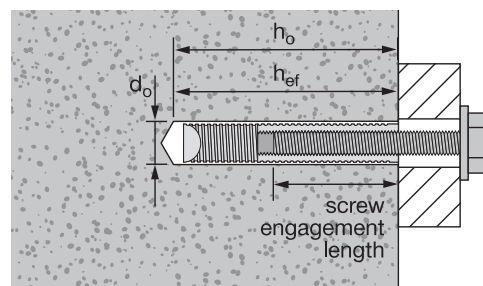

Figure 3 — Installation with (2) washers
1 Install using (2) washers. See Figure 3.